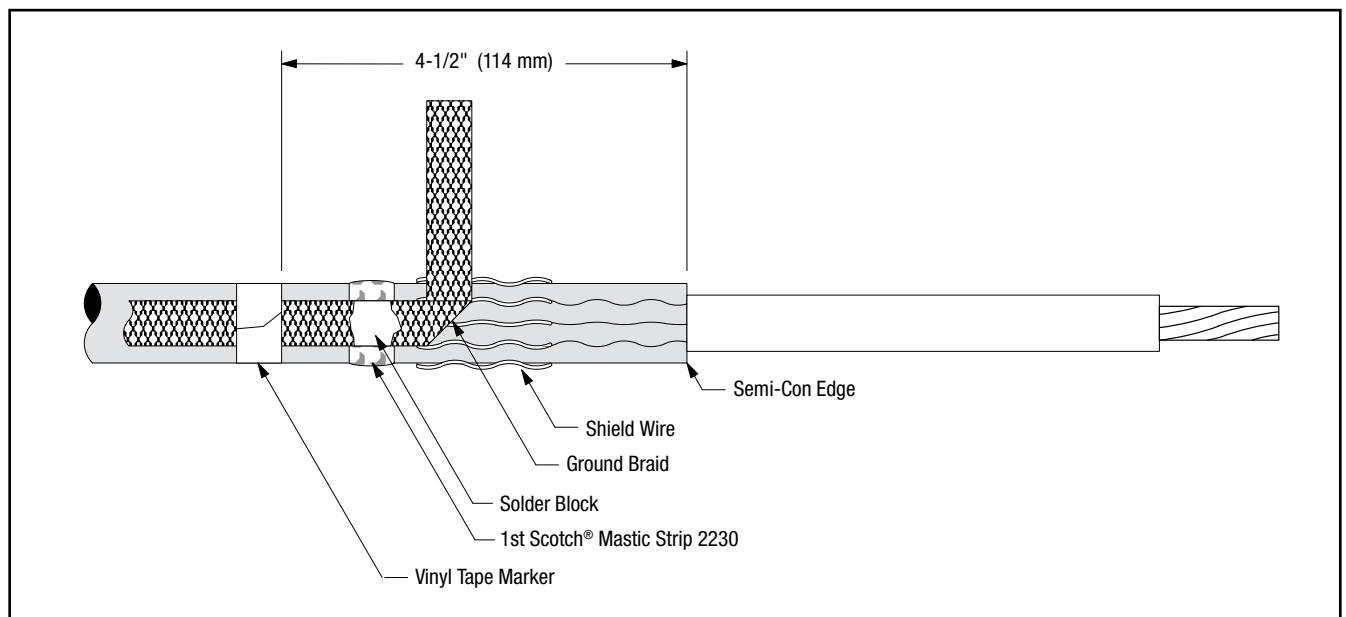

Figure 20
- 13.2 Position pre-formed ground braid with short tail directly over cut edge of folded back shield wires. Position long tail of ground braid, extending over cable semi-conductive jacket with solder block over mastic strip (Figure 20). Secure ground braid to cable semi-conductive jacket 4-1/2" (114 mm) from cable semi-con edge using vinyl tape (Figure 20).